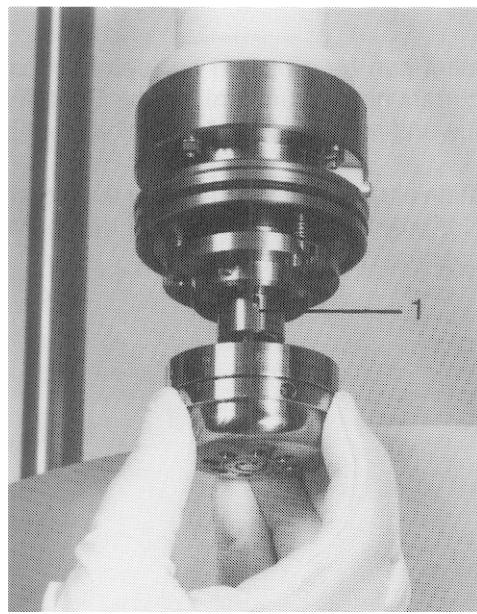

Fig. 4.14, Securing the Wehnelt assembly
4.4.3 Remounting the Wehnelt assembly (Fig. 4.14)